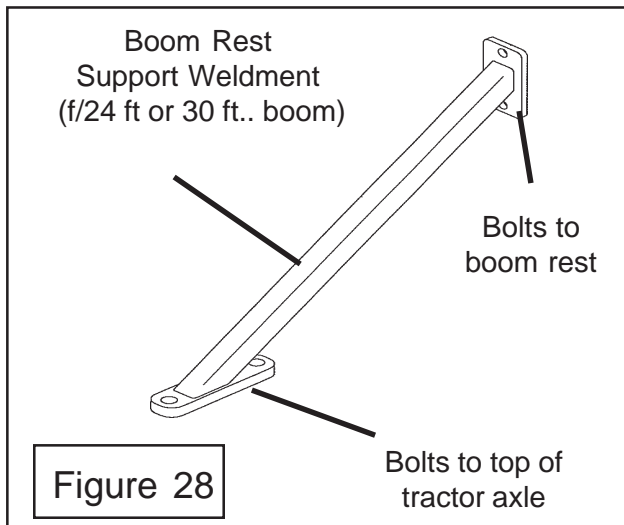
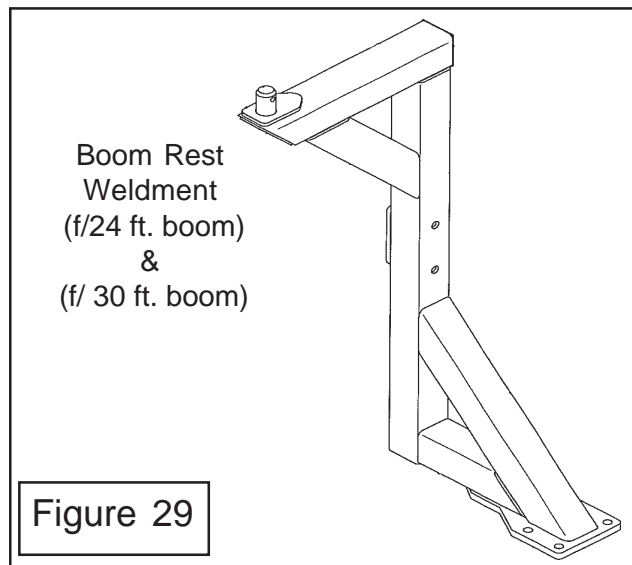
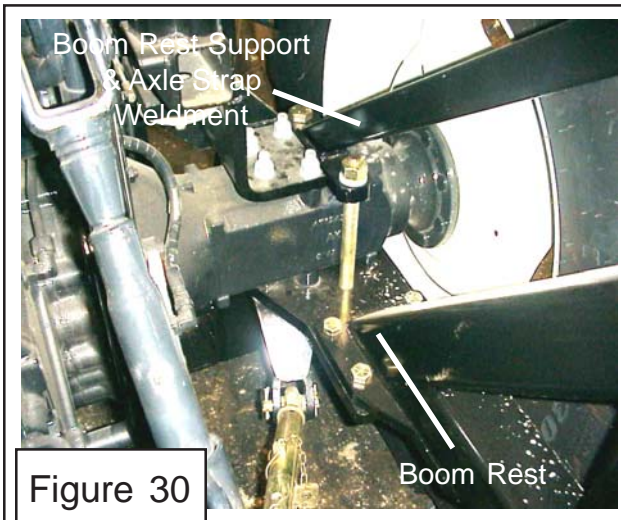

Figure 28
Figure 29
Figure 30
6. Install Boom Rest Weldment. The boom rest weldment for the 24 foot boom and the 30 ft. boom are not the same (See Figure 29). The boom rest weldment bolts to the RH Side on the Rear Frame mount weldment behind the tractor axle weldment (See Figure 30). It is recommended that this be installed using an overhead hoist and supported by the hoist until boom rest and support brace (See Figure 28 & 30) are completely installed. The Boom Rest Support also serves as the top axle strap for the RH Axle mount (See Figure 30).
7. Install LH Axle Strap. The Axle Strap bolts down over the top of the Axle (LH Side) and bolts run through the Rear Frame rails. The RH Side the axle strap is part of the boom support brace weldment and also bolts down over the axle with the bolts through the rear frame rail (See Figure 30 & 31)